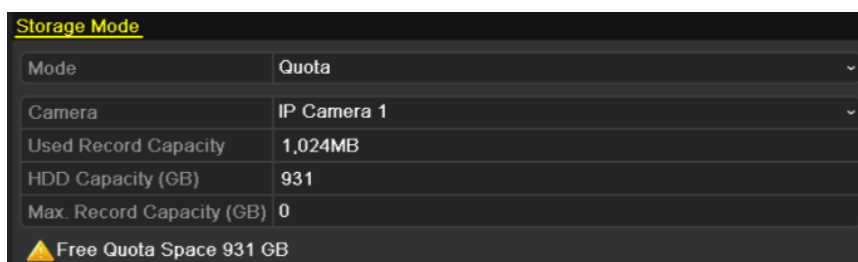

Figure 10.16 Storage Mode Settings Interface
2. Select a HDD from the list and click  to enter the Local HDD Settings interface, as shown in Figure 10.16.